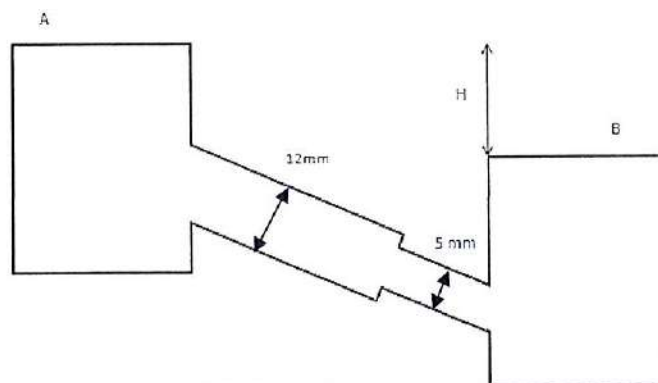

Figure 3 / Rajah 3
- b) In **Figure 3**, two reservoirs have a difference in level of H is 8 m and are connected by a pipe line, which is 40 mm in diameter for the first 12 m and 25 mm for the remaining 5 m. Calculate the discharge of flow in m^3/s if the coefficient of friction, $f = 0.001$ for both pipes and coefficient of contraction, $C_f = 0.66$.